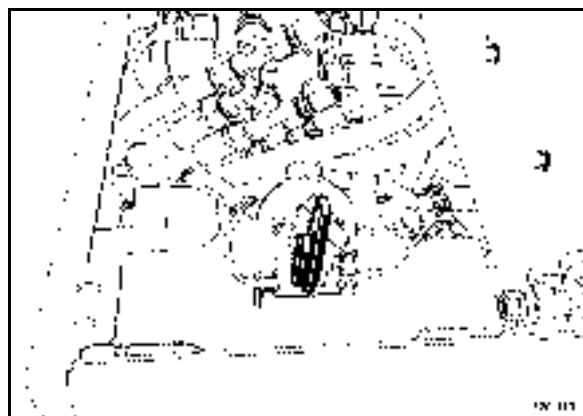

Fig. 60
- Switch off and pull out the main battery switch (Fig. 60).